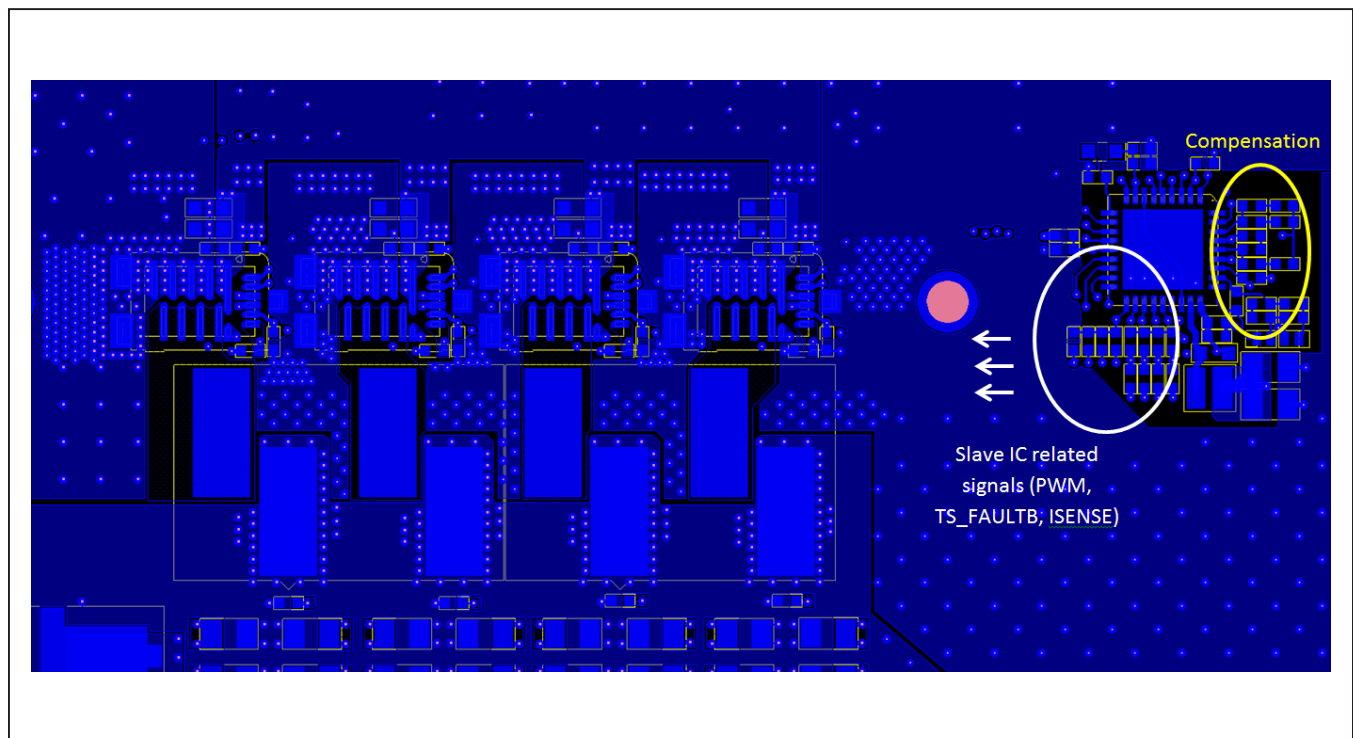

Figure 9. Board and Layout for Slave Signals
**Master/Slave Placement:** Position the master IC so the side with all slave-related signals is facing the slaves. This will avoid having noisy lines go under the master and interact with the analog compensation nets (Figure 9).